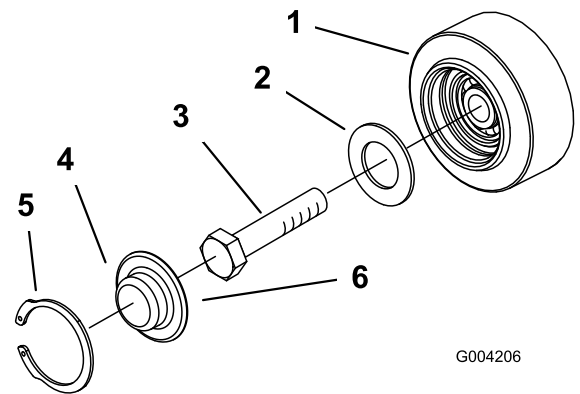

Figure 52
3. Remove the snap ring and cap from a road wheel (Figure 52).
4. Check the grease under the cap and around the gasket (Figure 52). If it is dirty, gritty, or depleted, clean out all of the grease, replace the gasket, and add new grease.
6. Place the greased road wheel cap over the bolt head (Figure 52).
7. Secure the road wheel cap with the snap ring (Figure 52).